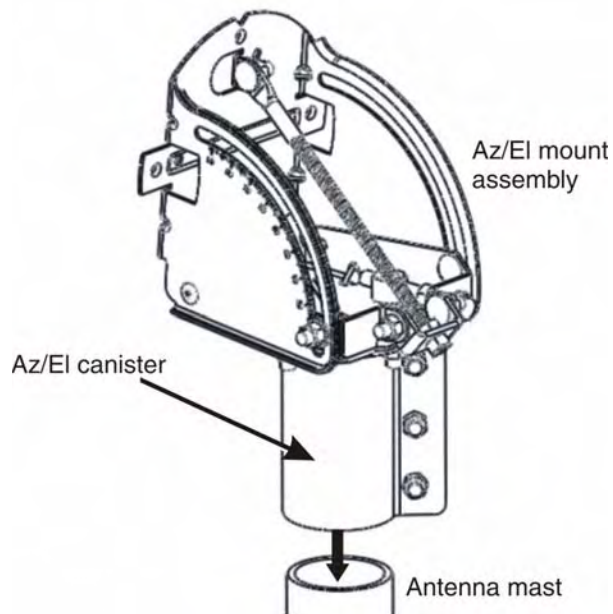

Figure 25: Installing the Az/EI mount assembly
- Slide the Az/EI canister of the mount assembly down onto the mast as shown in Figure 25.